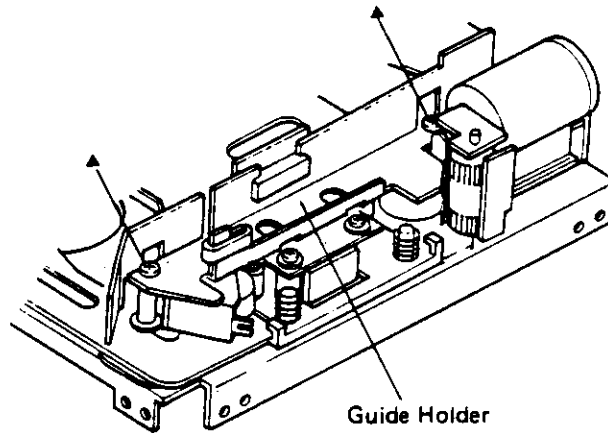

FIGURE 4-19. HEAD REMOVAL
- c. Remove two screws (marked ▲ ) and remove the guide holder (see Figure 4-19).